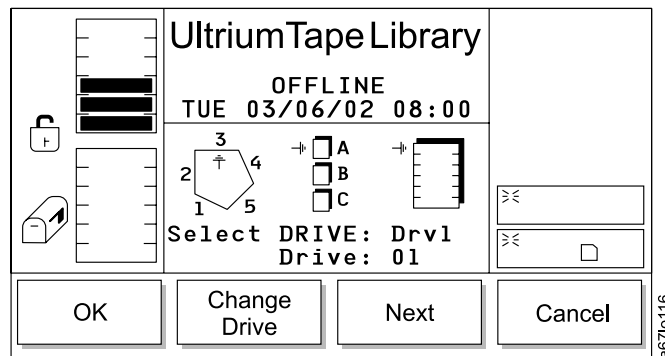

Figure 115. Change Drive Dialog
**Note:** If the chosen column element is a drive (column 3), no slot or magazine parameters are available. The current source parameter changes from column to drive and the Change Drive Dialog displays (see Figure 115).